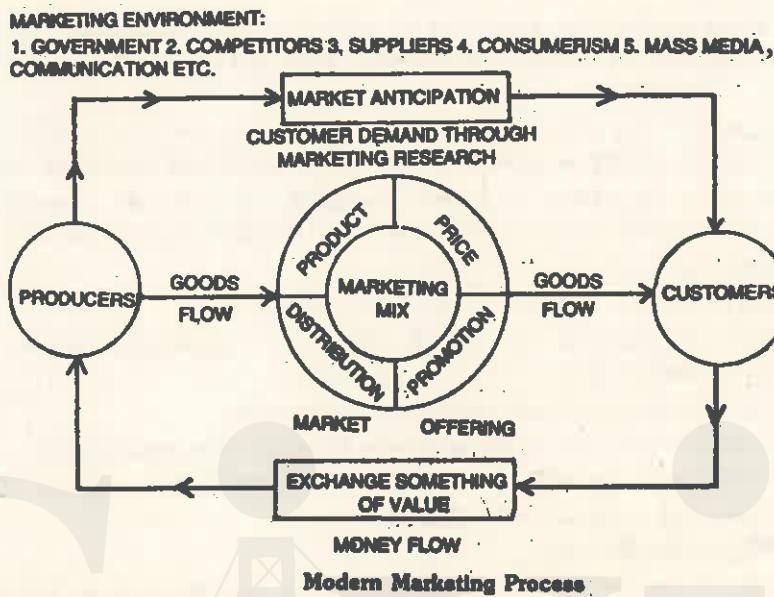

Fig. 31.10
- The marketing process is influenced by (1) competition (2) government rules and policies (3) mass media or communication etc. (refer Fig. 31.10)
- *Marketing environment (Fig. 31.10)* affects both producer and consumer.